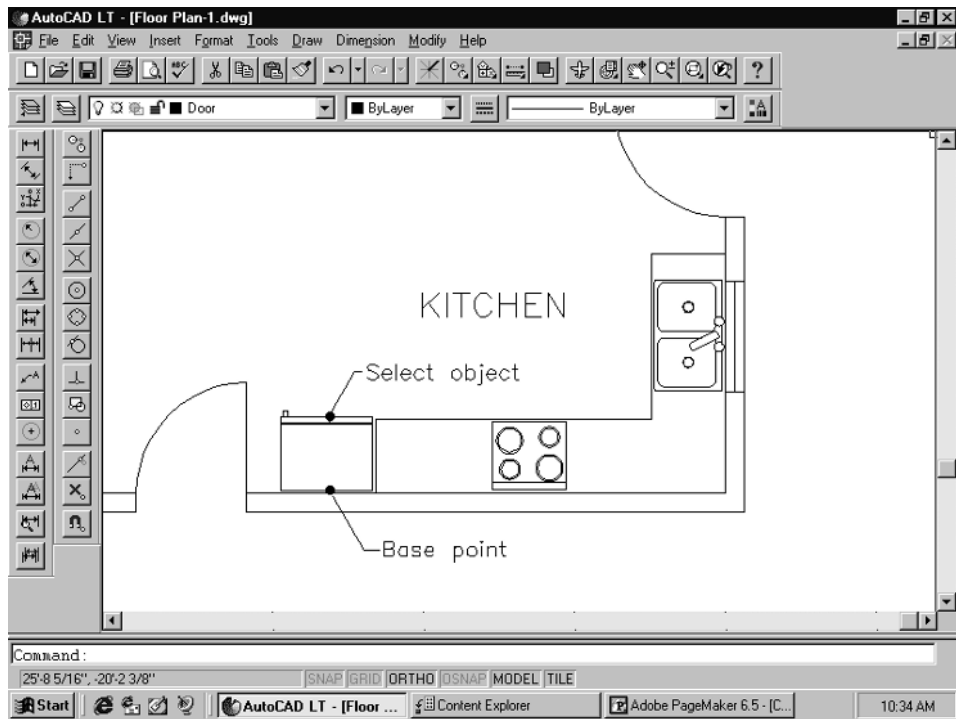

Figure 2-93
1. Pick **Scale** from the Modify pull-down menu. The *Select objects* prompt will appear. Select the refrigerator, then **Enter**. At the *Base point* prompt, pick the midpoint of the back line of the refrigerator, then **Enter**. See Figure 2-93.